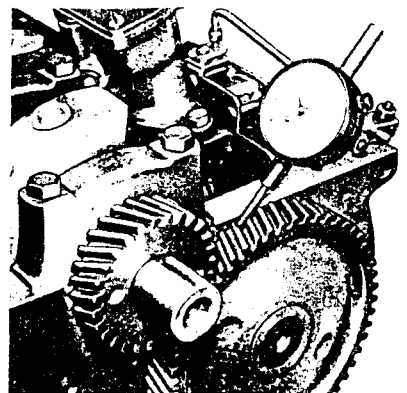

Figure 8-1-39
5. Check the backlash between the timing gear teeth with a narrow feeler gage or dial indicator (see Figure 8-1-39). The backlash should not be less than 0.004" nor more than 0.006".